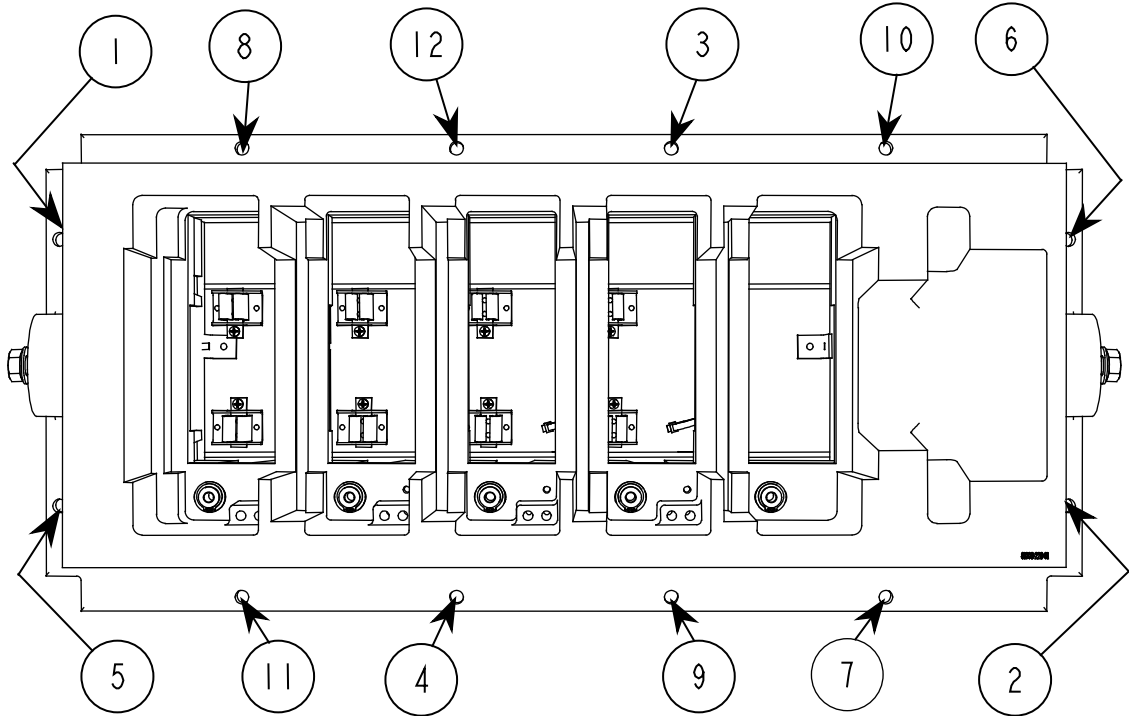

Figure 6.24 – Typical Torque sequence
3. When replacing the PowerCage, it is important to place the bolts on the outer flange in loosely. Torque bolts alternately on one flange and then the opposite flange to ensure even tightening of the module. A suggested sequence for torquing PowerCage bolts is shown in Figure 6.24.